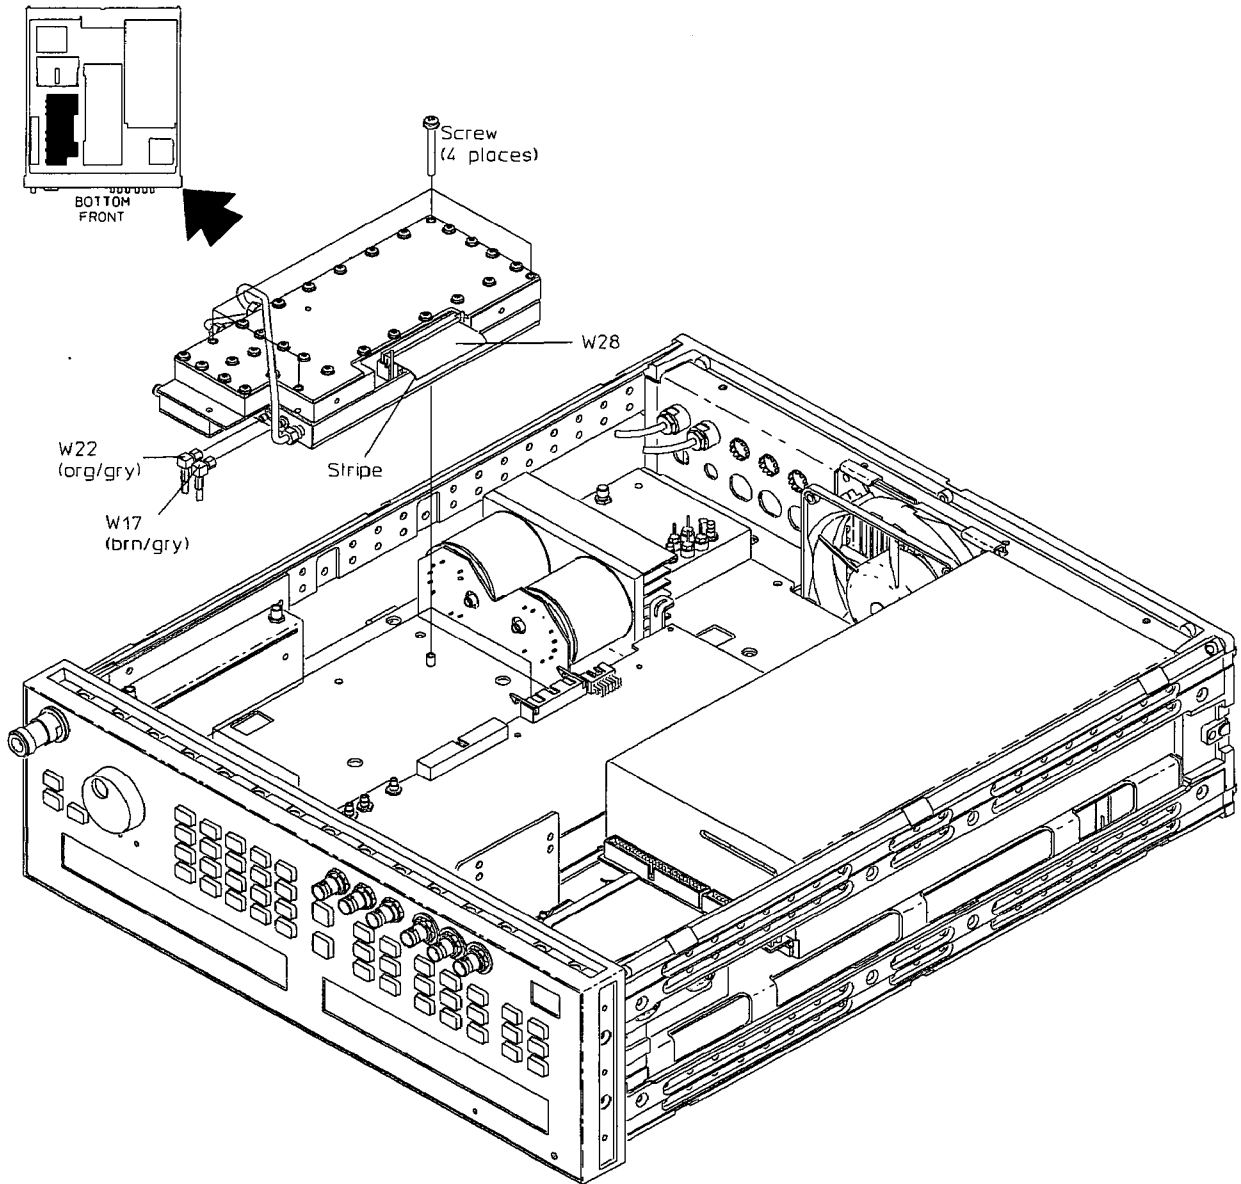

Figure 5-34. Output Module, SLPFA Module, and Coupler/Detector Removal
3. In the introduction to this chapter, refer to “Semi-Rigid Coaxial Cables” and Figure 5-34. Then, using a 5/16 in open end wrench, remove the following semi-rigid coaxial cables:
4. Refer to “Multi-wire Cables” and Figure 5-34. Then, disconnect the grey ribbon cable, W28, from the SLPFA module.
6. Using a size 10 TORX® screwdriver remove the four TORX® screws holding the subassemblies to the Microwave Deck as shown in Figure 5-34.
8. Refer to "Flexible Coaxial Cables" and Figure 5-34. Then, disconnect the following cables from the side of the SLPFA module:
9. Refer to “Flexible Coaxial Cables” and Figure 5-34. Then, connect the following SMB cables to the side of the SLPFA module: